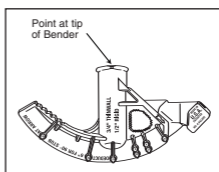

Figure 3
4. Bend until the point on the top of the conduit bender aligns with desired teardrop arrow. Please see Figure 3 & 4.